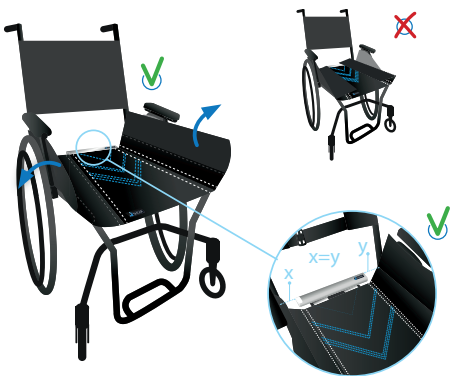

Figure 13
3. Place the iShear on the wheelchair seat base, aligning the iShear horizontally between the back support canes. Ensure the lateral flaps are folded upwards against the side guards/arm support of the wheelchair. Maintain equal spacing between the iShear and the wheelchair canes on both sides (see Figure 13).